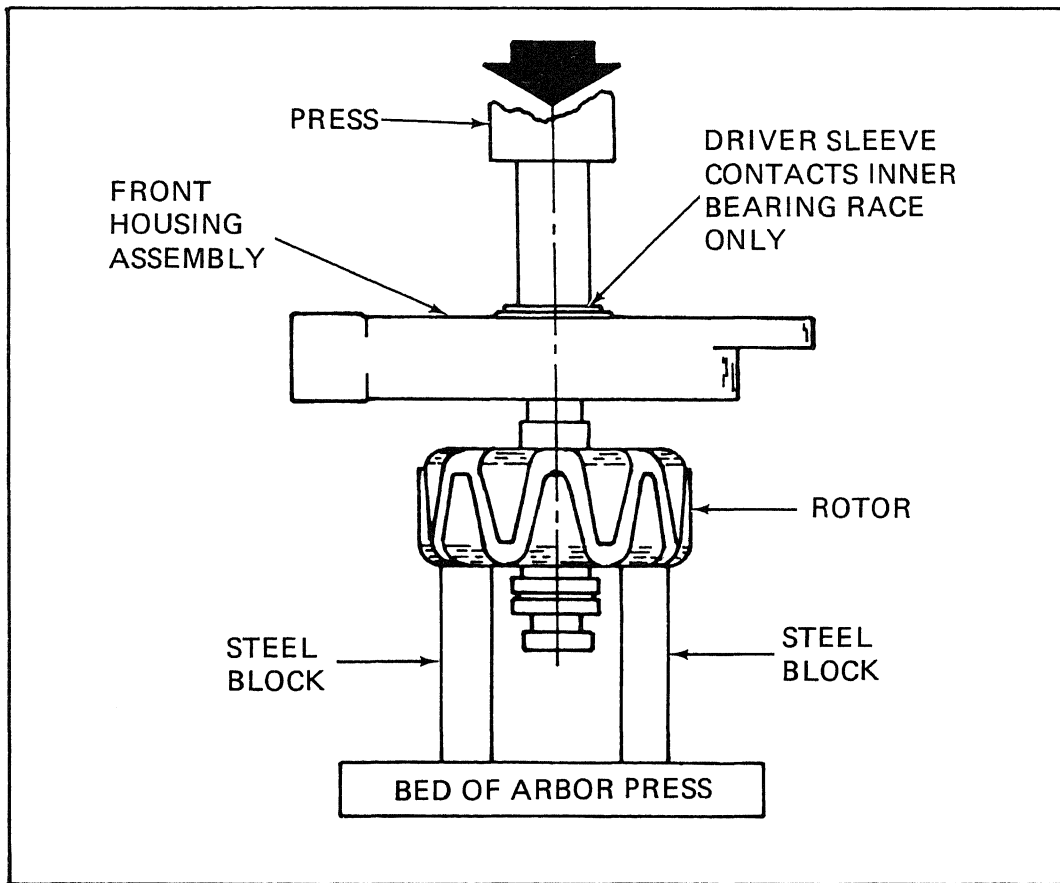

Figure 5-28.28. Assembling Front Housing to Rotor
- (4) Place the rotor on the bed of an arbor press, using two steel blocks for support, as shown in Figure 5-28.28. Place front housing over shaft. Using driver sleeve that contacts inner bearing race only, press front housing down until inner bearing race contacts shoulder on the shaft.